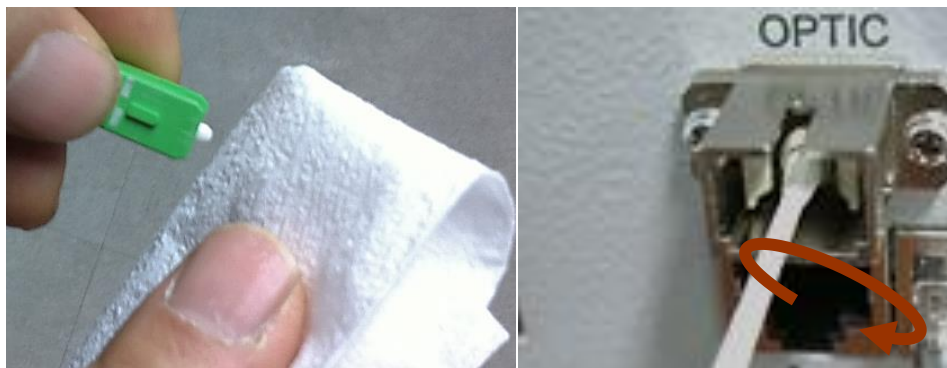

Figure 3-7 Optic Connector Cleaning (left) and Optic Port Cleaning (right)
- We recommend cleaning optic connector using a dry optical cleaning swab or tissue in a dry environment as needed. We recommend cleaning the optic connectors only if the expected optic loss is higher than the loss reported in the Web-GUI by 1.5dBo. (Figure 3-7)